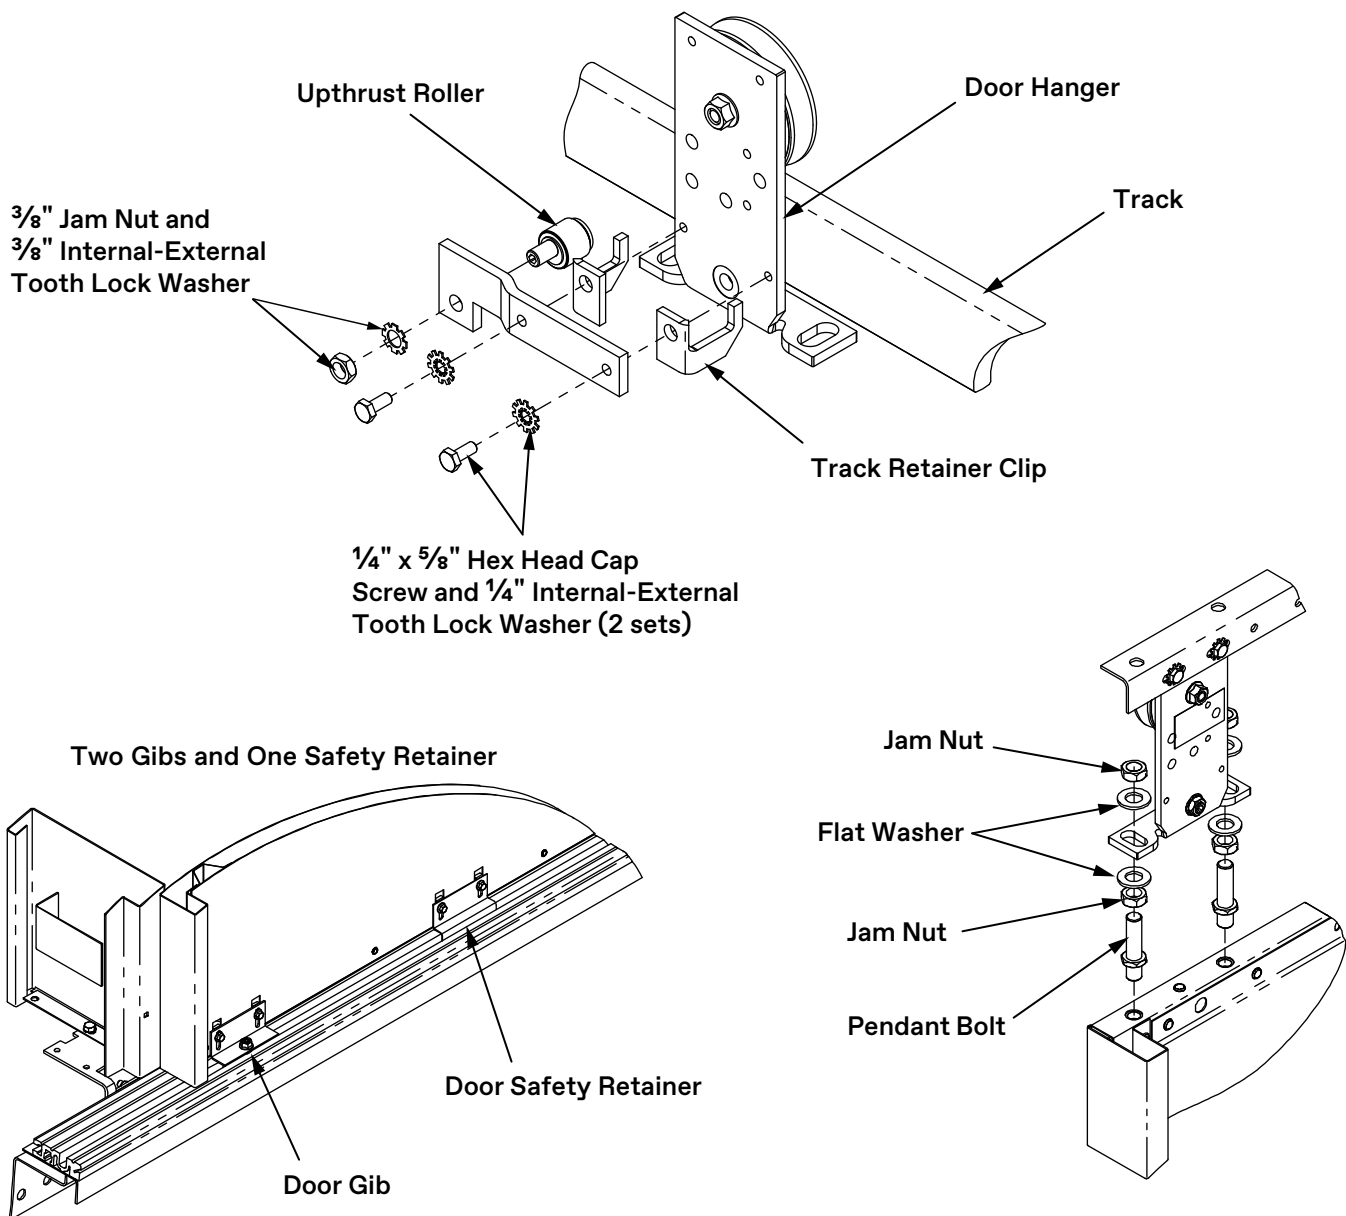

Figure 10 - Mount Hoistway Doors
3. Install pendant bolts in the top of the doors and tighten. See Figure 10.